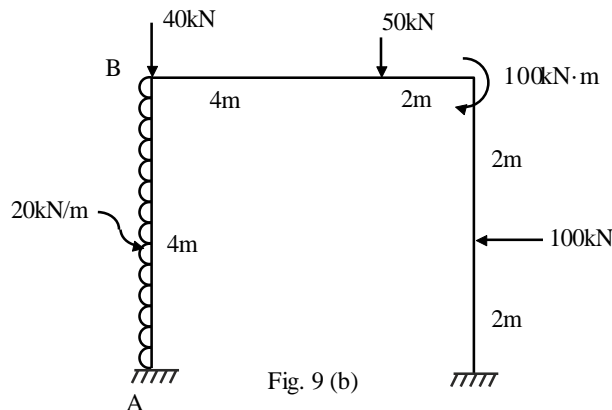

Fig. 9 (b)
b) Find the global load vector of the rigid jointed frame shown in fig. 9 (b). Take external temp. =  $20^\circ\text{C}$ , Internal temp. =  $50^\circ\text{C}$ ,  $\alpha = 1 \times 10^{-5} / ^\circ\text{C}$   $E = 2.54 \times 10^7 \text{ kN/m}^2$ .